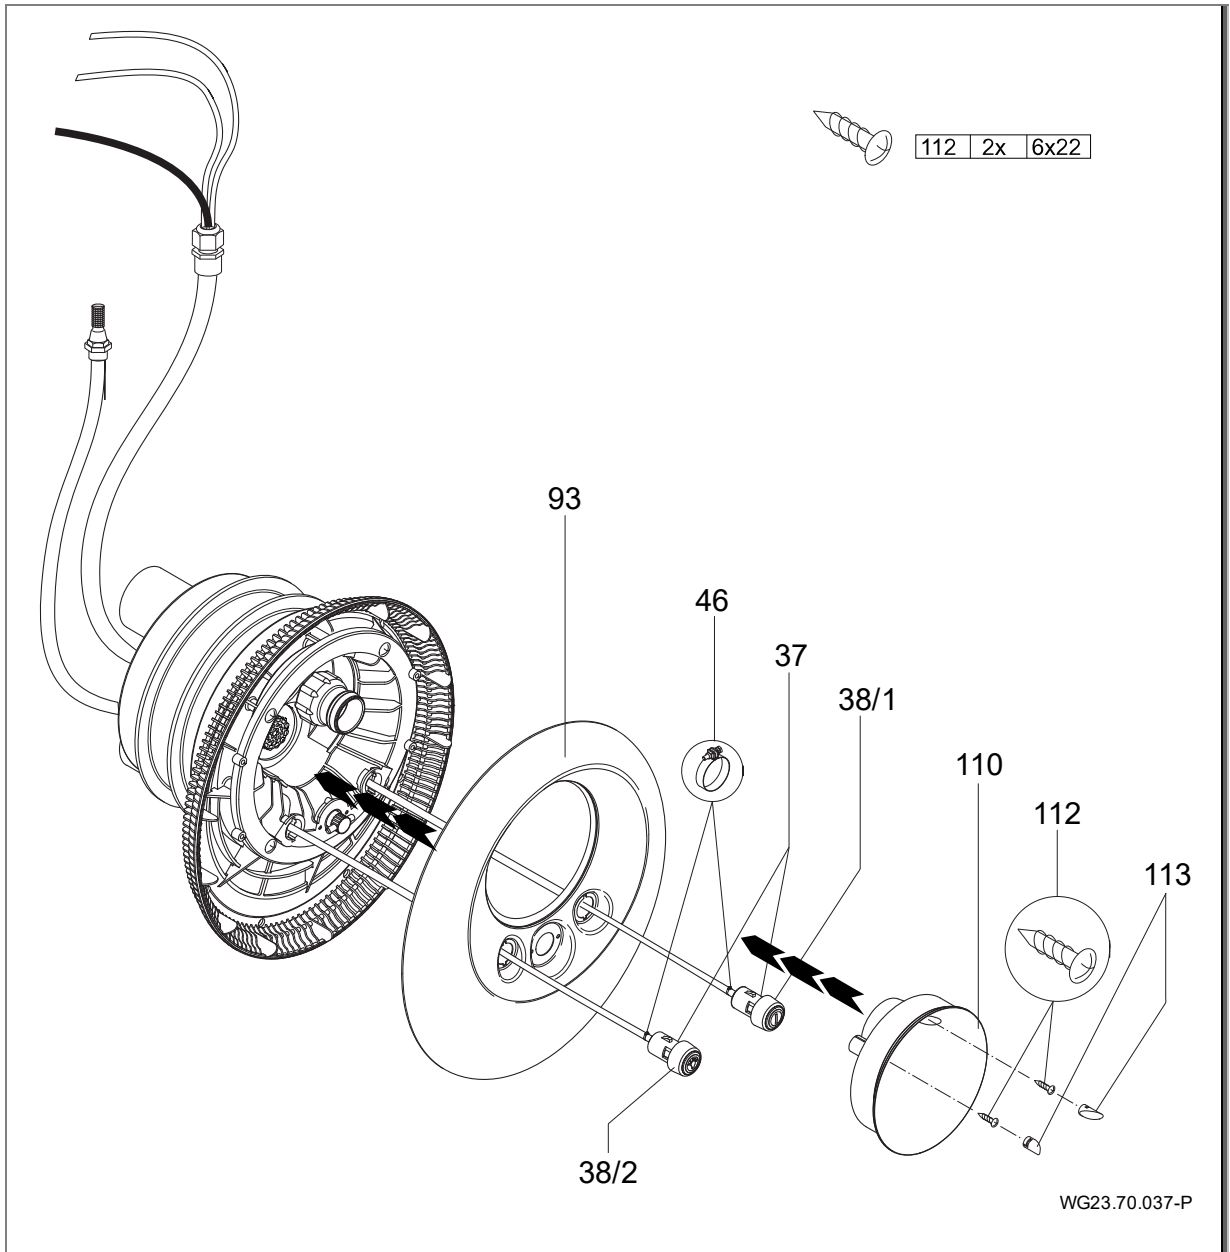

Fig. 19
7. Lead the pneumatic hoses through the openings in the stainless steel cover (93) and fasten them to the corresponding buttons with hose clamps (46); Light ON/OFF left; Pump ON/OFF right. (Fig. 19)